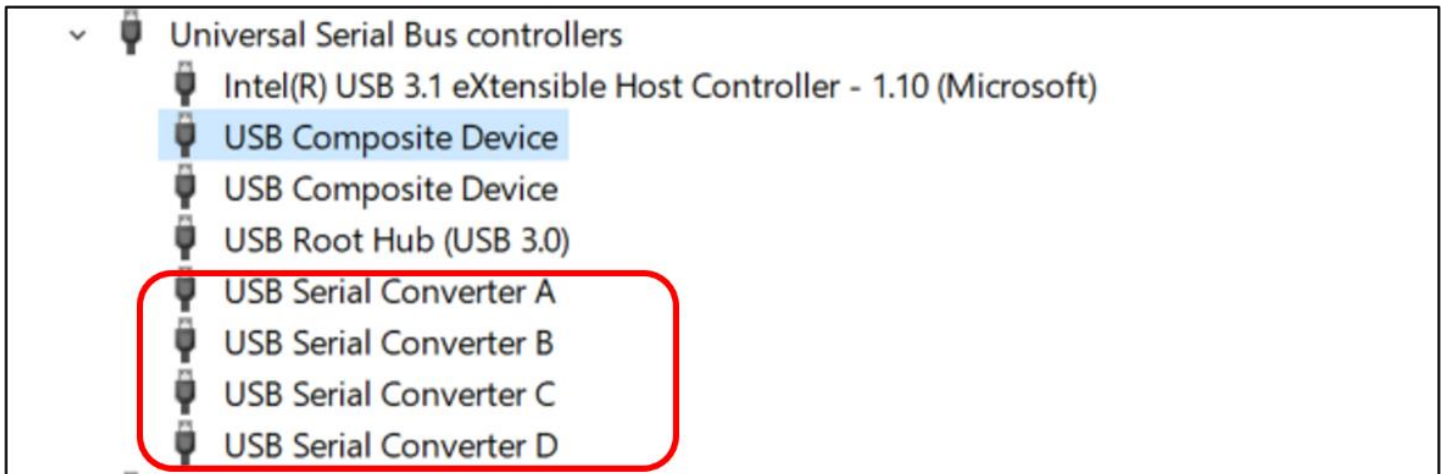

Figure 48: Device Manager – Composite Device
1. Ensure the device connected is detected under `COM Port` as shown in Figure 48.